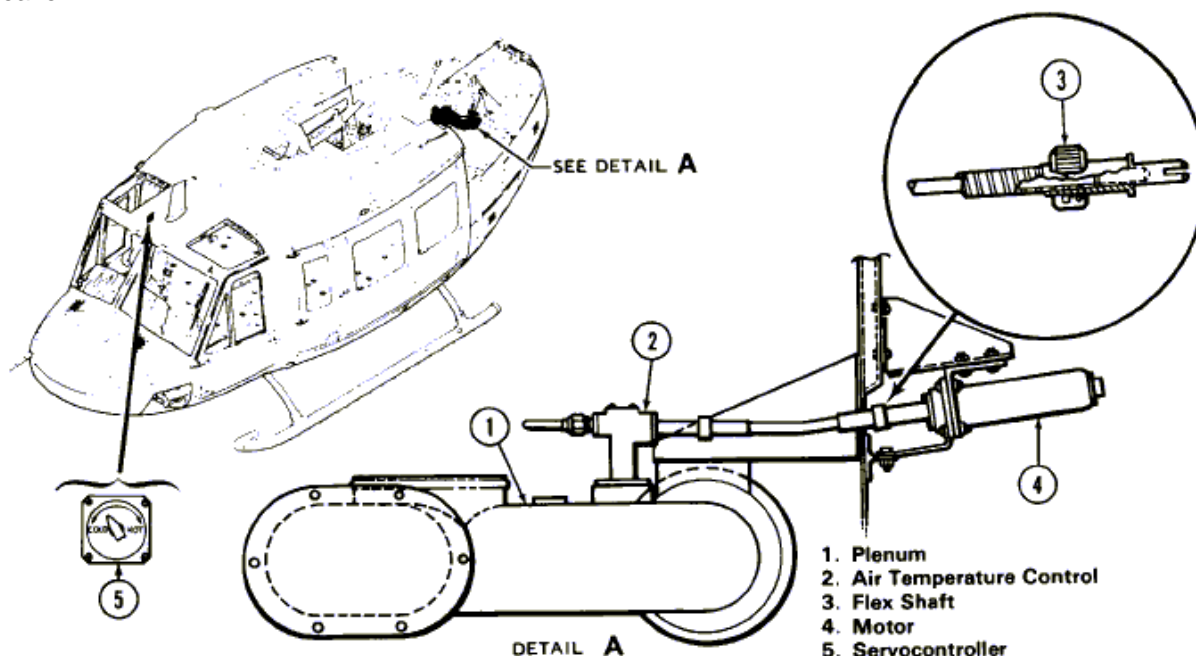

Figure 96-9. Cabin Temperature Control
*With electrical power on, air temperature control (2, Figure 96-9) is phased with motor as follows:*